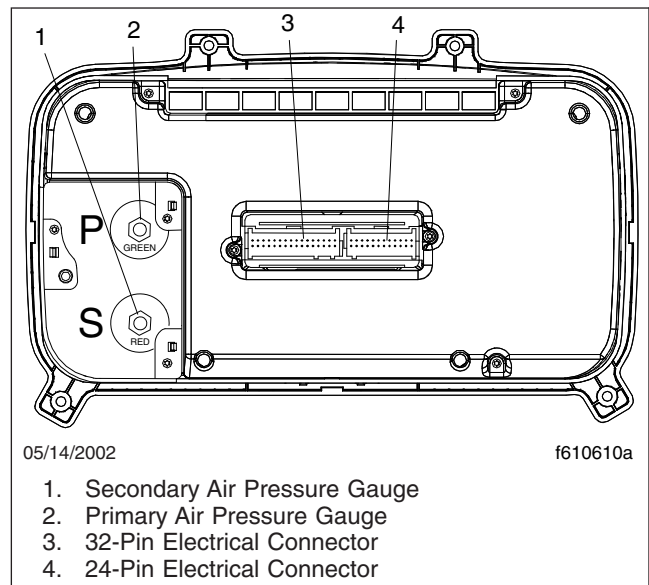

Fig. 3, ICU3S, Rear View
9. Disconnect the two electrical connectors from the back of the ICU3S. See Fig. 3.